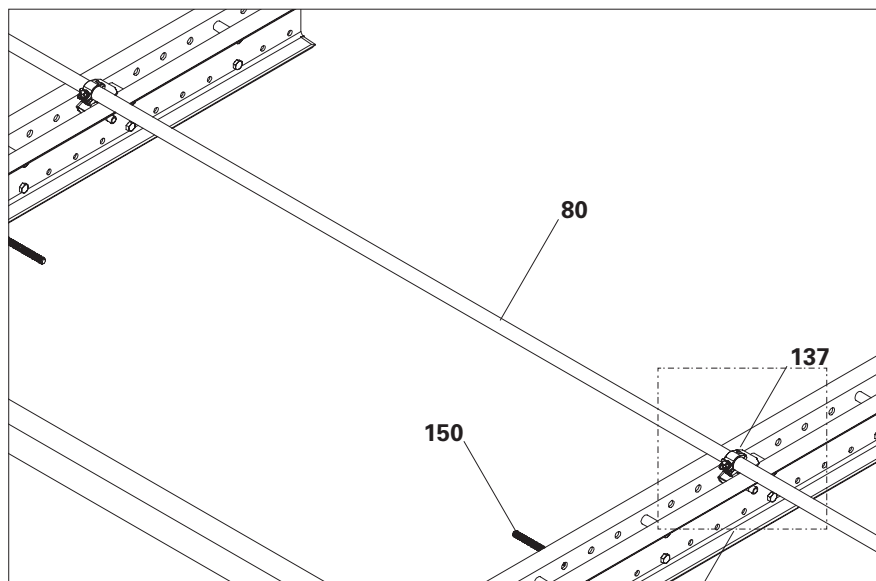

Fig. C2.03
2. As a transport locking device, screw one reinforcement bar (**150**) into both climbing rails with cam nuts. The reinforcement bar on the outer side must not project over the enclosure. (Fig. C2.03 – C2.03a)